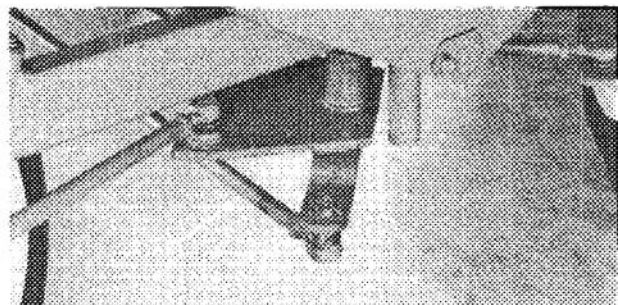

Figure 69
4. Turn steering wheel completely to the right until it bottoms out in steering gear box. Check steering plate with respect to stop on rear axle pivot (Fig. 68). Steering plate must contact the stop. If parts do not contact, loosen jam nuts on rear steering rod (Fig. 69). Shorten the rear steering rod until steering plate contacts the stop while steering wheel is locked for a full right turn (Fig. 68).